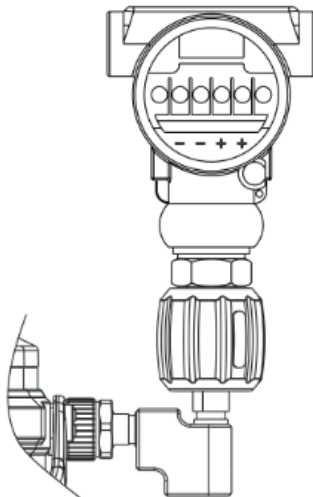

Figure 4 Connect to DUT
As shown in Figure 4.
(1) Output the pressure using internal module **I**, please refer to the Figure 4 to connect the UUTs.
(2) If wants to use external modules **A** or **B**, need a ADT107 manifold (Optional), and please follow the below steps to make the connection.